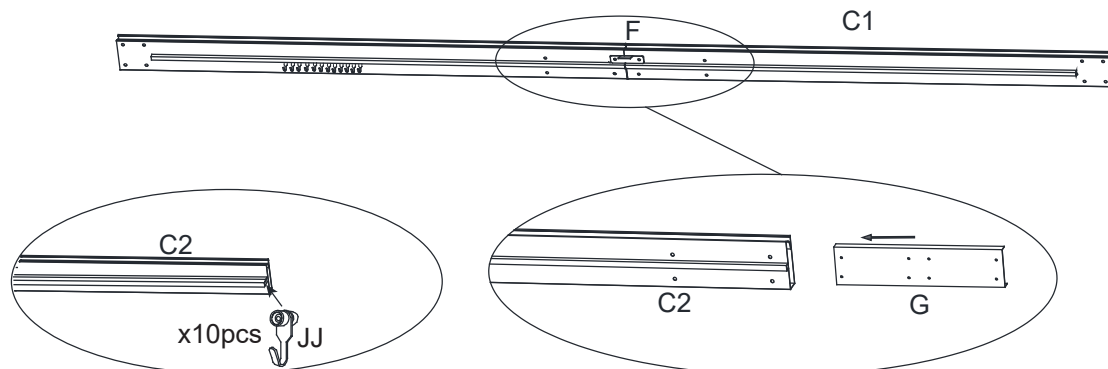

Fig.2.1
2.1. Slide the Hanger (JJ) onto the Short Right Lintel (C2), See.Fig.2.1